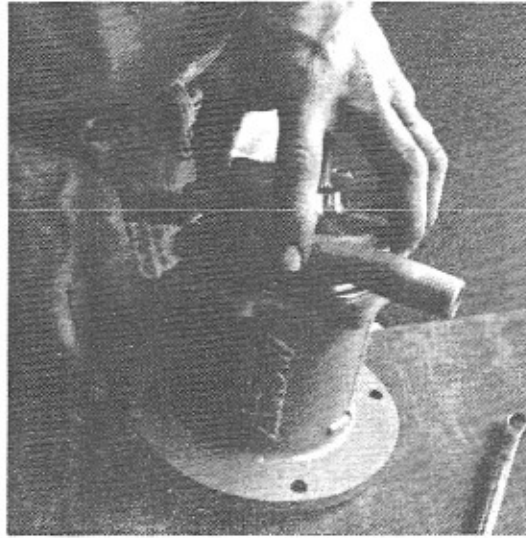

Figure 24
- C. Lift off the casing (Part No. 2) [Fig. 24]. CAUTION: LIFT STRAIGHT UP TO AVOID BENDING AND BREAKING THE SHAFT (Part No. 8).